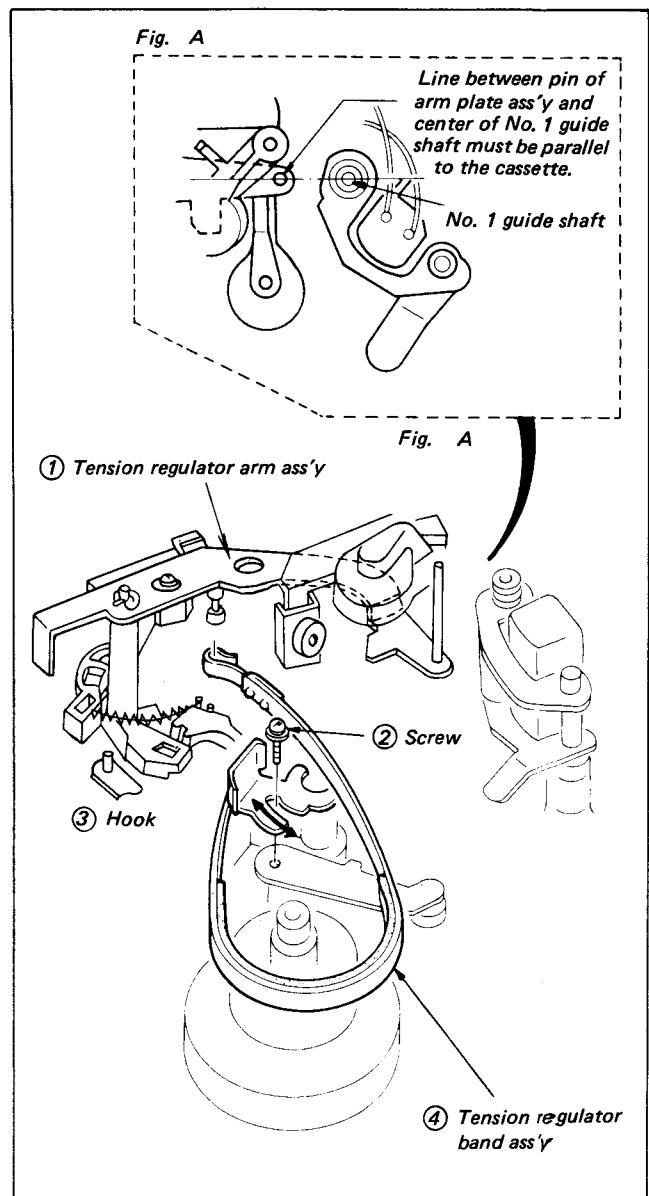

Fig. 3-4.
- (1) The tension regulator band assembly can be removed after removing screw (1) and hook (2) shown in Fig. 3-4.
- (2) Perform the tension regulator FWD position adjustment described below after the replacement.
- (iii) Move the brake band in the direction of an arrow as shown in Fig. 3-4 and tighten the screw at the position where state shown in (A) can be set up.